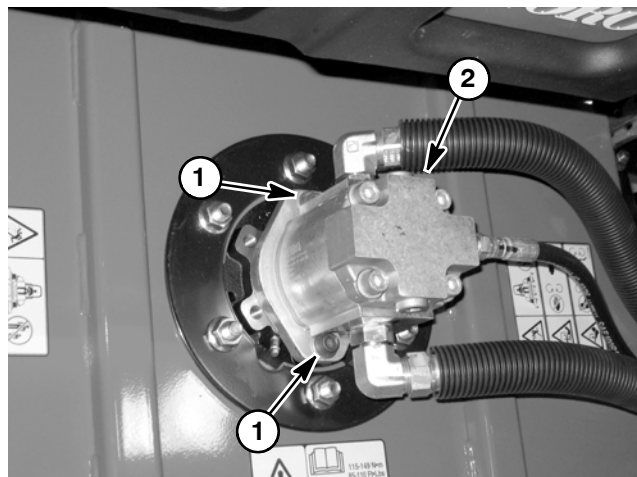

Figure 84
5. Remove two (2) socket head screws and flat washers that secure hydraulic motor to cutting deck (Fig. 84).
4. Secure motor to cutting deck with two (2) socket head screws and flat washers (Fig. 84).